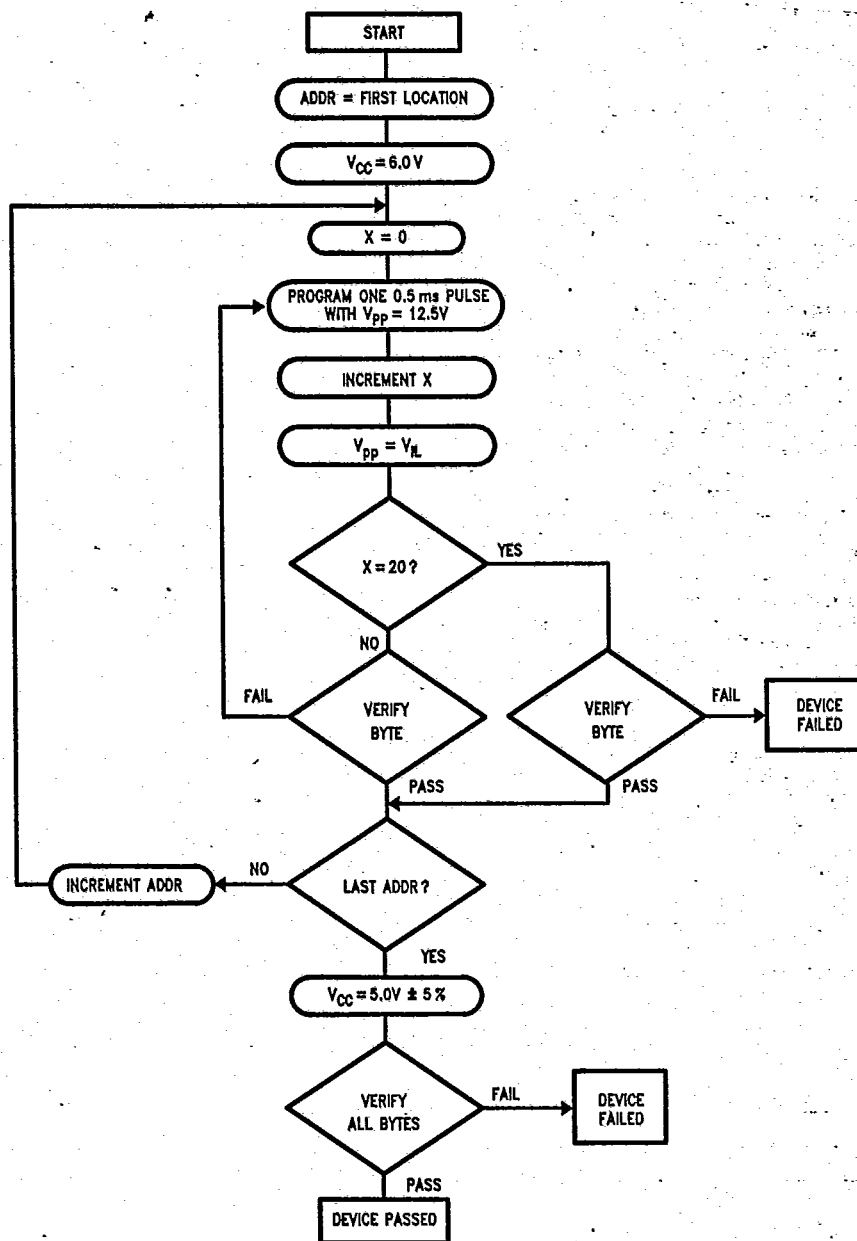

FIGURE 2
**Note:** Some programmer manufacturers due to equipment limitation may offer interactive program Algorithm (Shown in Figure 2).